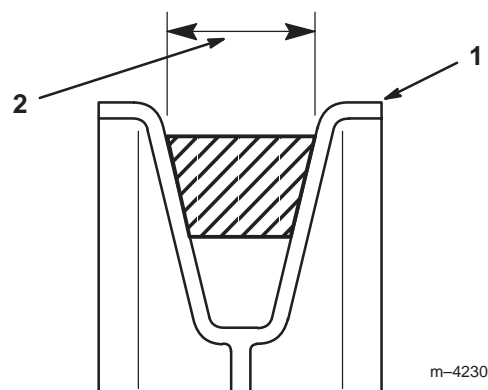

Figure 46
5. Make certain that the wide side of the PTO drive belt is toward the outside diameter of **all six (6) of the pulleys** (Fig. 46).